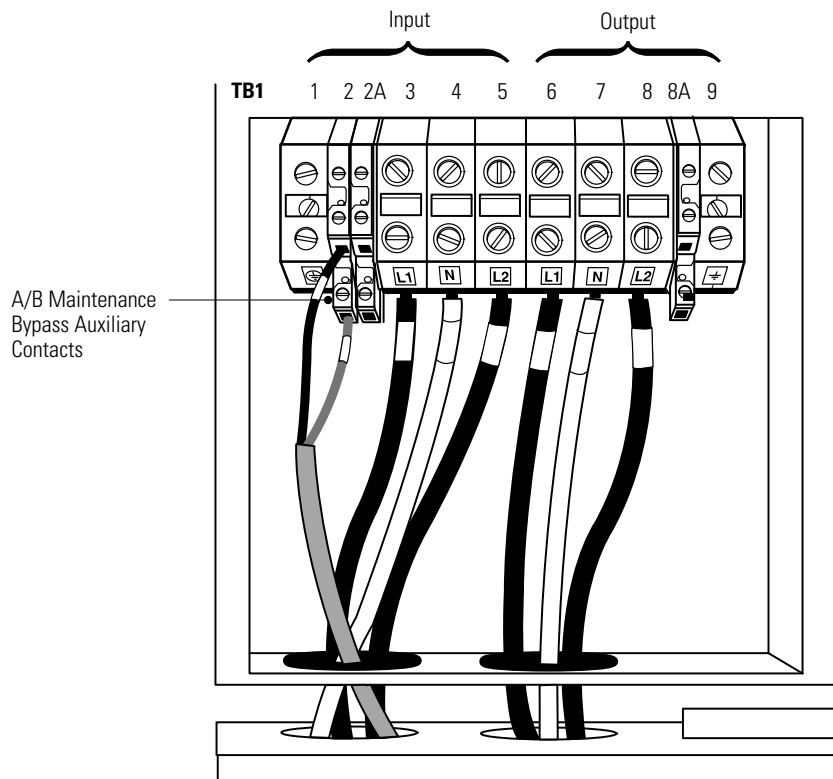

Figure 20. Wiring from Maintenance Bypass Switch to UPS
- Connect the factory-installed wiring from the maintenance bypass switch to the UPS terminal block (see Figure 20).